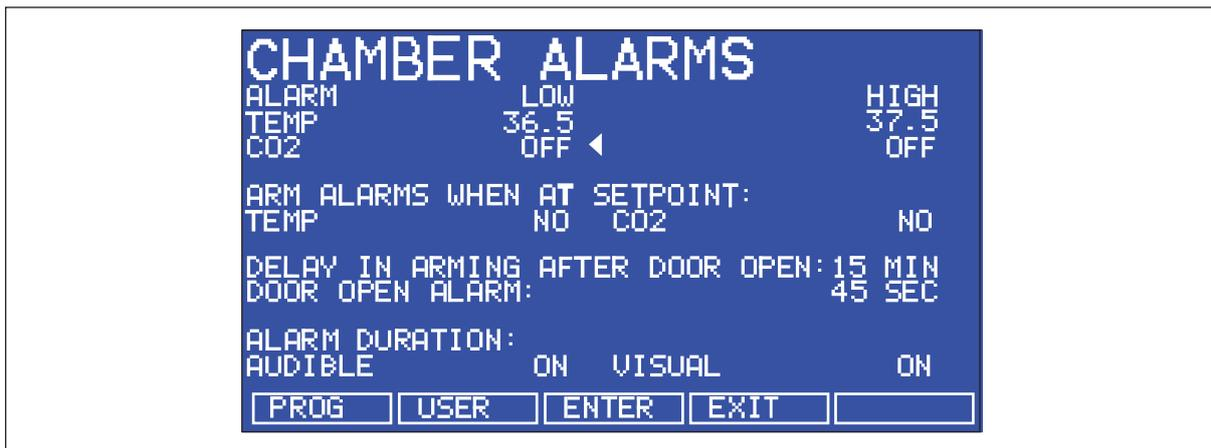

Fig. 5-7: CHAMBER ALARMS screen
To enter the *CHAMBER ALARMS* menu screen, press the *ALARM* function key on the main display. The *CHAMBER ALARMS* programming screen (see Fig. 5-7 on p. 31) allows the various alarm options to be selected and modified. Press the ▲ or ▼ direction key to move around the options and the ◀ or ▶ direction key to adjust values. The temperature and CO2 high and low alarm setpoints automatically adjust to within ± 0.5 of the temperature and CO2 setpoints. The alarm setpoints can also be manually adjusted.
2. Select *NO* for both *TEMP* and *CO2* (see Fig. 5-7 on p. 31).
3. Choose the option *DELAY IN ARMING AFTER DOOR OPEN* and select the desired delay (15 minutes in the sample screen (Fig. 5-7 on p. 31)) to allow for temperature and CO2 recovery after the door has been opened.
The *DOOR OPEN ALARM* can be adjusted and chosen from 7 preset durations (45 seconds in this example, (Fig. 5-7 on p. 31)) to warn of an improperly closed door.
In the off position, any chamber alarms that occur will be displayed on the screen without flashing and with the audible alarm inhibited (see Fig. 5-7 on p. 31).